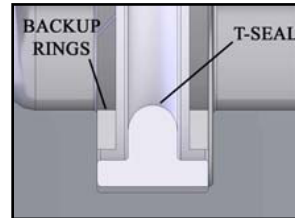
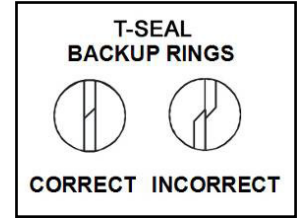

FIGURE 2
FIGURE 3
5. Lubricate the T-Seal with clean hydraulic oil. Install into the piston I.D. groove in the orientation shown in **Figure 2**.
6. Install the Backup Rings on both sides of the T-Seal as shown in **Figure 2**. Make sure the ends of the Backup Rings do not overlap as shown in **Figure 3**. Orient the ends of both Backup Rings 180 degrees opposite of each other.